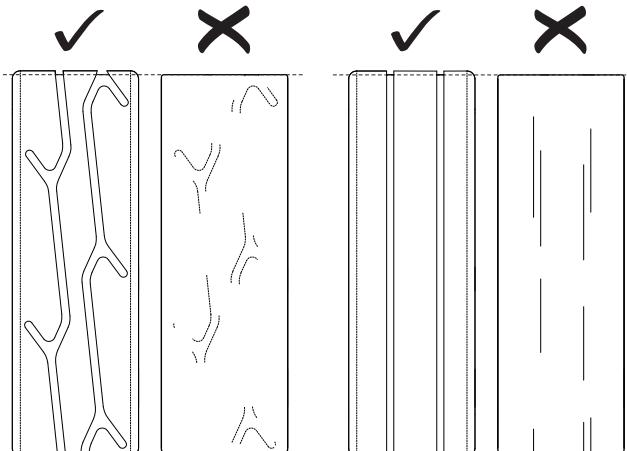

Figure 01
- The tire tread should be visible and not worn down completely. Refer to Figure 01.